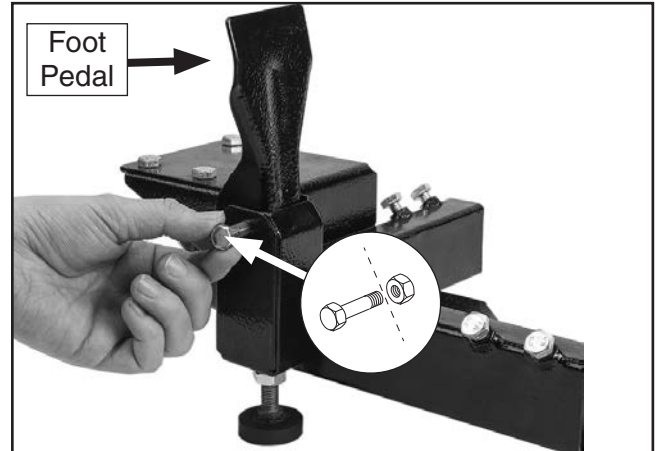

Figure 6. Attaching foot pedals.
3. Attach foot pedal to each front corner bracket using (1) M8-1.25 x 50 shoulder bolt and (1) M8-1.25 lock nut (see **Figure 6**).